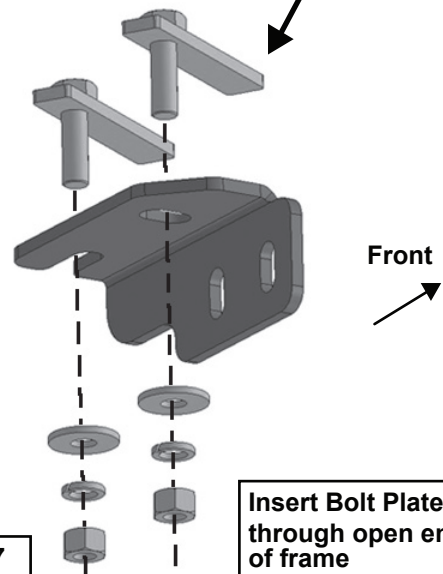

Fig 7
b. Attach the Bracket to the Bolt Plates with (2) 12mm Flat Washer, (2) 12mm Lock Washers and (2) 12mm Hex Nuts, (Fig 7).